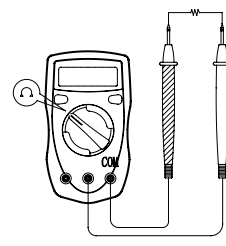

Figure 4
D. Measuring Resistance (see figure 4)